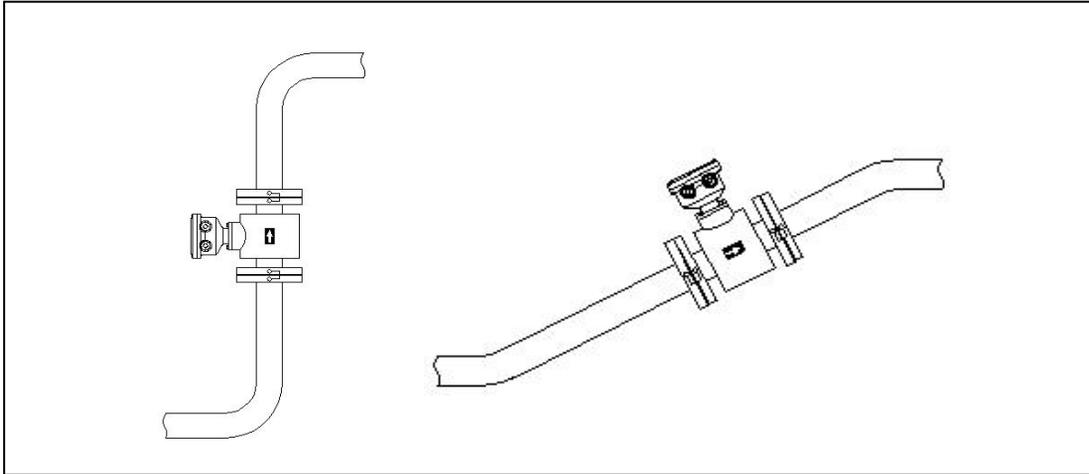

Figure 4.2.3 Inclined or vertical installation.
3) If the flowmeter is tilted or vertically installed, the flow direction of the flowmeter should be bottom-up, as shown in figure 4.2.3: